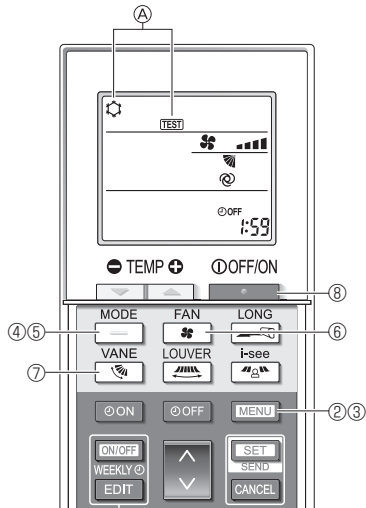

Fig. 7-8
- ① Turn on the power to the unit at least 12 hours before the test run.
- ② Press the **[MENU]** button for 5 seconds. (Fig. 7-8)
A [TEST] and the current operation mode are displayed. (Fig. 7-8)